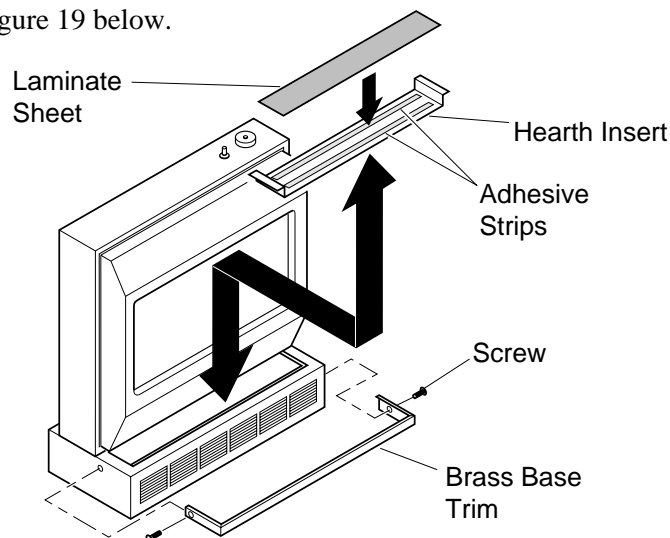

Figure 19 - Placing Hearth Insert on Heater Base and Attaching Brass Base Trim
6. Attach laminated insert onto hearth insert if desired (see Figure 19). Place hearth insert in hearth base as shown in Figure 19 below.
8. Slide base trim on heater base. Attach brass trim to base with two brass screws included as shown in Figure 19 below.